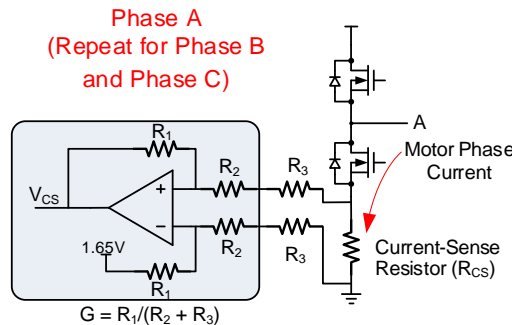

Figure 32: Current-Sense Diagram
A good rule of thumb is to leave a 50% margin for the power rating to guarantee that the device can operate normally at high temperatures. Using Figure 32, the amplifier gain (G) can be calculated with Equation (10):
It is typically recommended to leave a minimum of a 20% margin to guarantee a robust design. Ensure that this value is not too small. To improve current-sense accuracy, the calculated value should be at least 60% of 1.65V. Figure 32 shows the current-sense diagram.